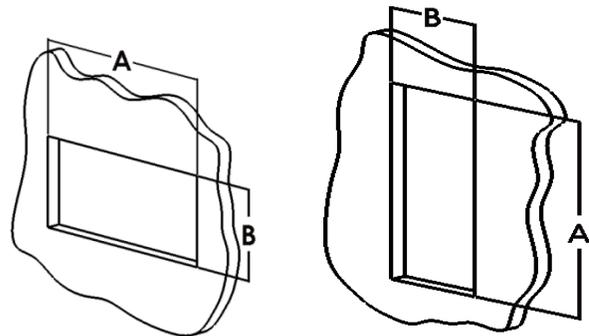

Figure 1
1. Cut the required exterior wall opening for your venting system see Figure 1.